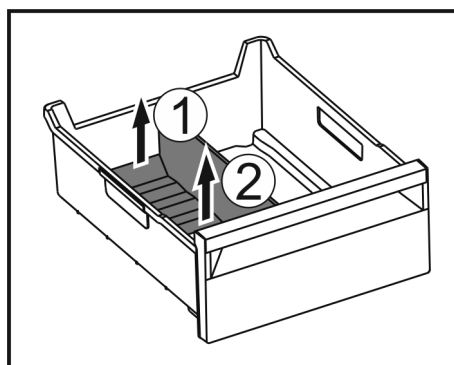

Fig. 55
- Lift the rear part of the ice compartment divider. Fig. 55 (1)
- Remove the ice compartment divider upwards. Fig. 55 (2)